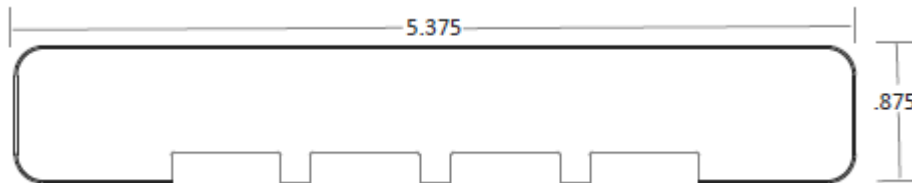

FIGURE 3 – ENDECK® AIR STRAIGHT EDGE DECK BOARD
**3.2** *Endeck® Air* deck boards have a solid cross section with nominal rectangular dimensions of 7/8 inch thick by 5-3/8 inches wide and have a recessed-ribbed bottom surface. The *Endeck® Air* Deck boards are semi-capped (three sides). See Figure 3.